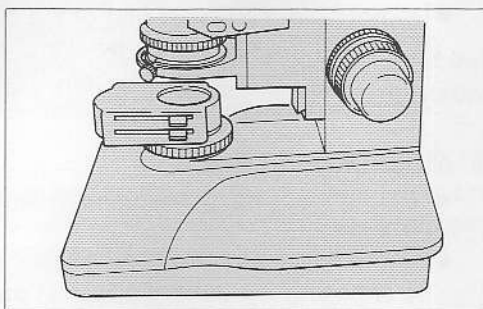

Fig. 2-14
- When frequently lowering the microscope stage, mount the ND filter cassette in the direction as shown in Fig. 2-14.